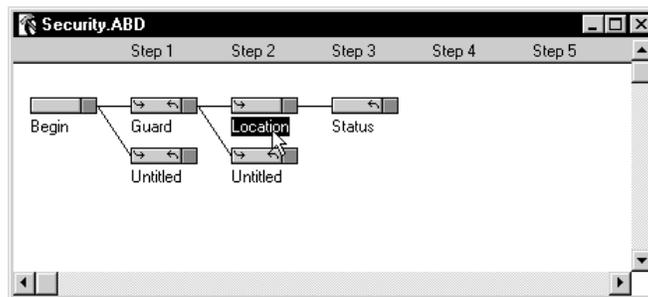

Figure 4-34 “Location” Handler Selected
- Click the “Location” Handler (Figure 4-34).